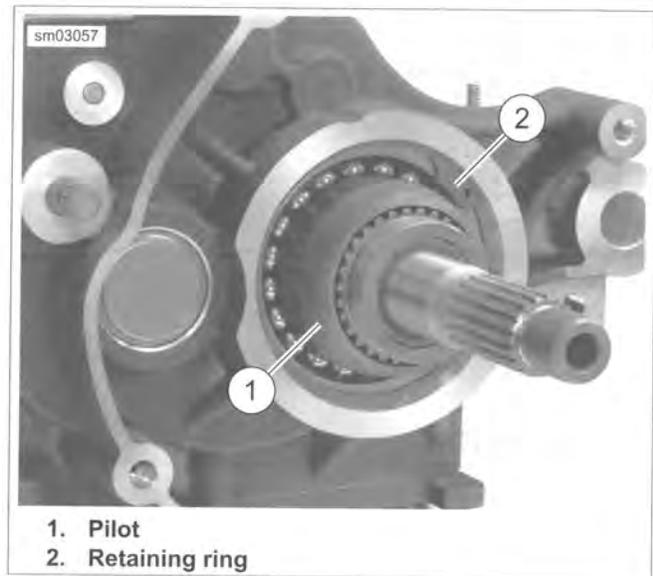

Figure 6-51. Install Pilot
4. See Figure 6-51. Install **new** retaining ring (2).
1. See Figure 6-51. Install PILOT (Part No. HD-47856-2) over end of main drive gear bearing inner race.